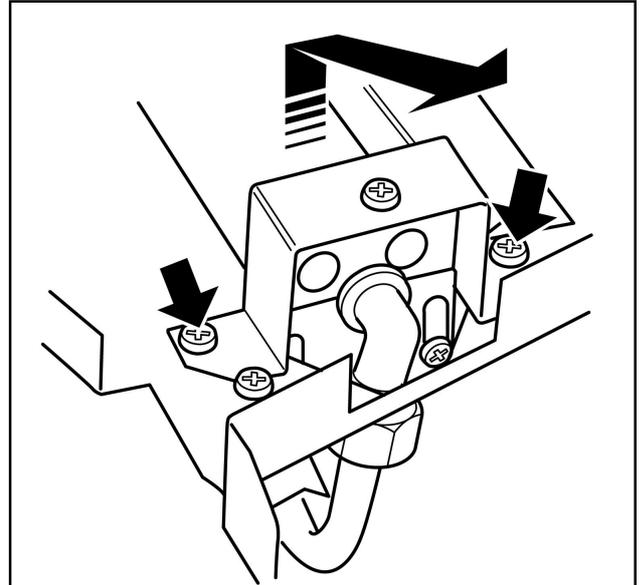

Figure 39. Removal of burner
(See figure 39).
3. Remove the two screws from the burner clamping plate (See figure 39)